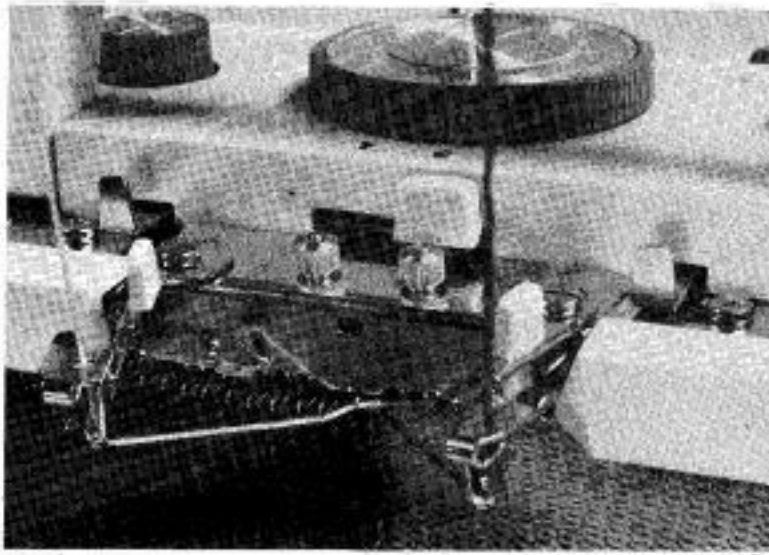

Fig. 142
2. Pull out of action the left hand feeder as shown in Fig. 142.